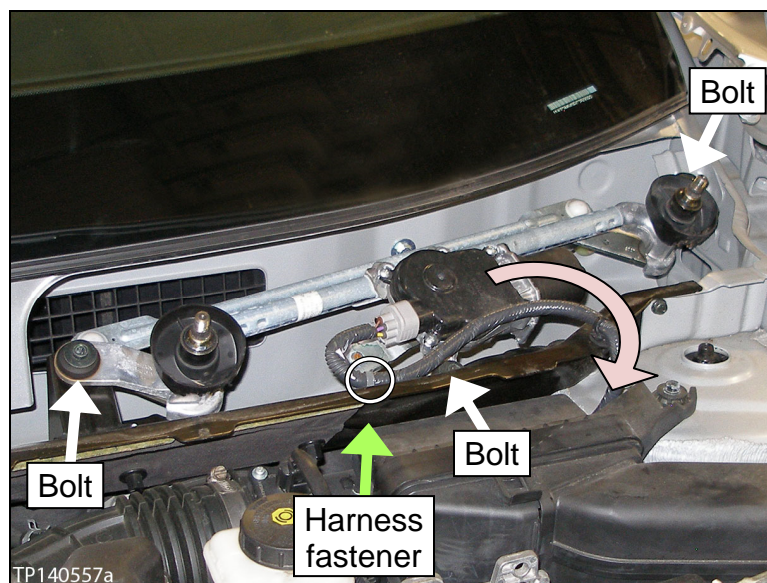

Figure 3a
2. If water is found on the driver side: Remove the front wiper drive assembly and position where shown in Figure 3a.
- c. Move the wiper drive assembly out of the way (see Figure 3a).